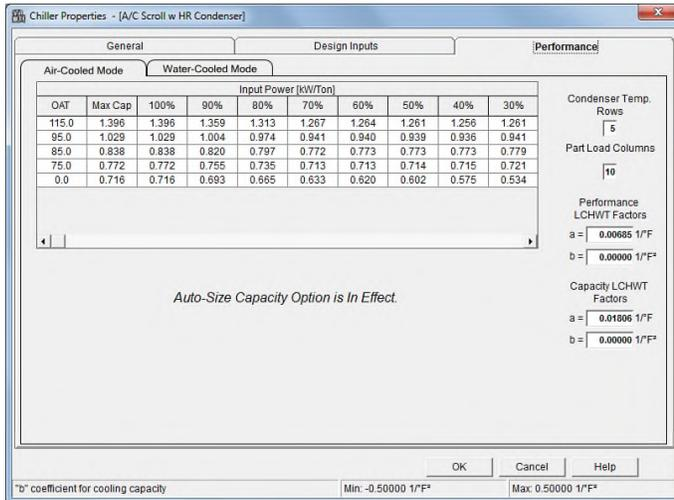

Figure 6.
- On the Performance tab specify the chiller performance map for air-cooled condenser (heat rejection) operation (Figure 6) and water-cooled condenser (heat recovery) operation (Figure 7). If off-design and part-load performance data is available from the manufacturer, it should be entered here. Because this data is sometimes not available, a common practice is to use the default maps supplied by HAP, which are automatically adjusted based on your full load capacity and full load input power specifications on the Design Tab.
Air-Cooled Heat Rejection Mode: Suppose the chiller is expected to operate during times of year when the outdoor air dry-bulb temperature is between 95 F (35 C) and 40 F (4.4 C). Therefore the air-cooled performance map (Figure 6) must have rows which span at least this range of outdoor air temperatures. If operating conditions fall outside the range of conditions specified in the map, HAP uses the closest data in the map, but this introduces error. The most accurate results will be obtained when the performance map spans the expected range of operating conditions.
Water-Cooled Heat Recovery Mode: Suppose the entering water temperature for the heat recovery condenser is expected to range between 100 F (37.8 C) and 120 F (43.3 C). Therefore the water-cooled performance map (Figure 6) must have rows that span at least this range of conditions. As explained for the air-cooled map above, if operating conditions fall outside the range defined, HAP uses the closest data in the map. For example, if the entering condenser temperature rises to 120 F and the map only contains data to 110 F, HAP will use data from the 110 F row since that is the closest available. This will underestimate chiller energy use operating at 120 F entering water temperature and therefore introduce error in the results.